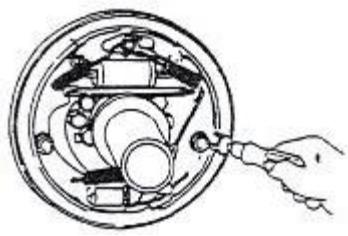

Figure1
(1) Remove the support pin ,adjustment lever ,adjustment device and spring on the auxiliary brake shoe. As figure 1